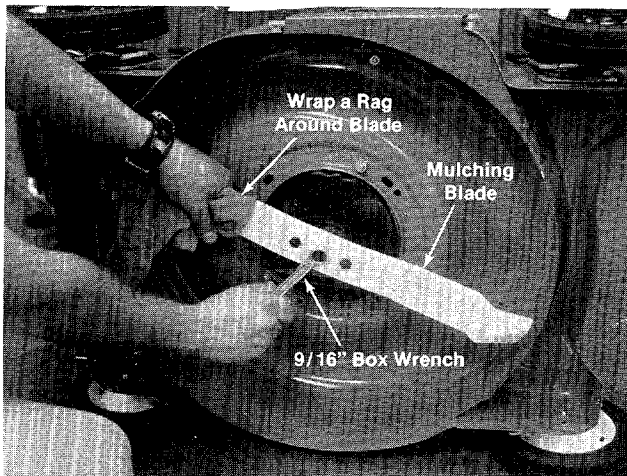

FIGURE 10.
2. Remove the mulching blade. You will need a 9/16" box wrench or an adjustable wrench. We suggest you hold the blade with a rag to prevent cutting your hand. See figure 10. Remove only the center bolt.